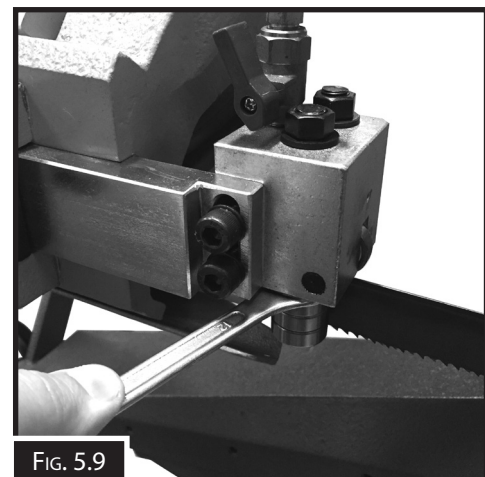

FIG. 5.9
3. Using a spanner on the hex section between the bearing and the casting, adjust the bearing, so it is against the side of the blade. There should be no clearance. (Fig. 5.9)